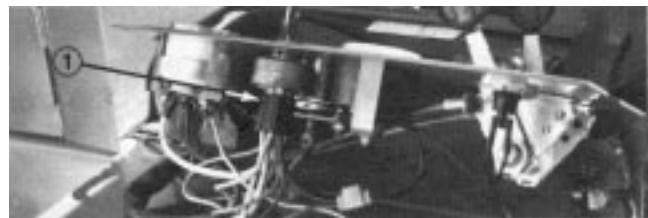

Figure 21
**Electrical System Fuses** (Fig. 21) – Two inline fuses—SFE 14 amp—are incorporated into the electrical system. Access to the fuses can be gained by removing the instrument panel cover.